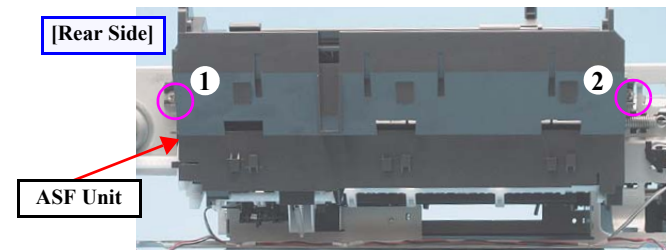

Figure 1-101. Disengaging the Hooks (ASF Unit)
- Tighten the screws in the order given in **Fig.1-101 (p.54)**.